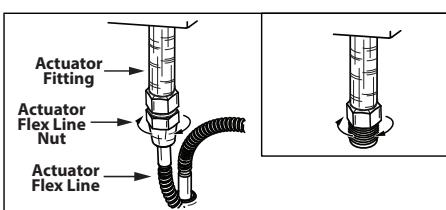

Figure 49 - Actuator Flex Line Removal
- 2** Uninstall the actuator flex line from the actuator fitting by using a 9/16" wrench to hold the actuator fitting secure to the gas valve while using a second 9/16" wrench to loosen and remove the actuator flex line nut off from the actuator fitting. (See Figure 49).